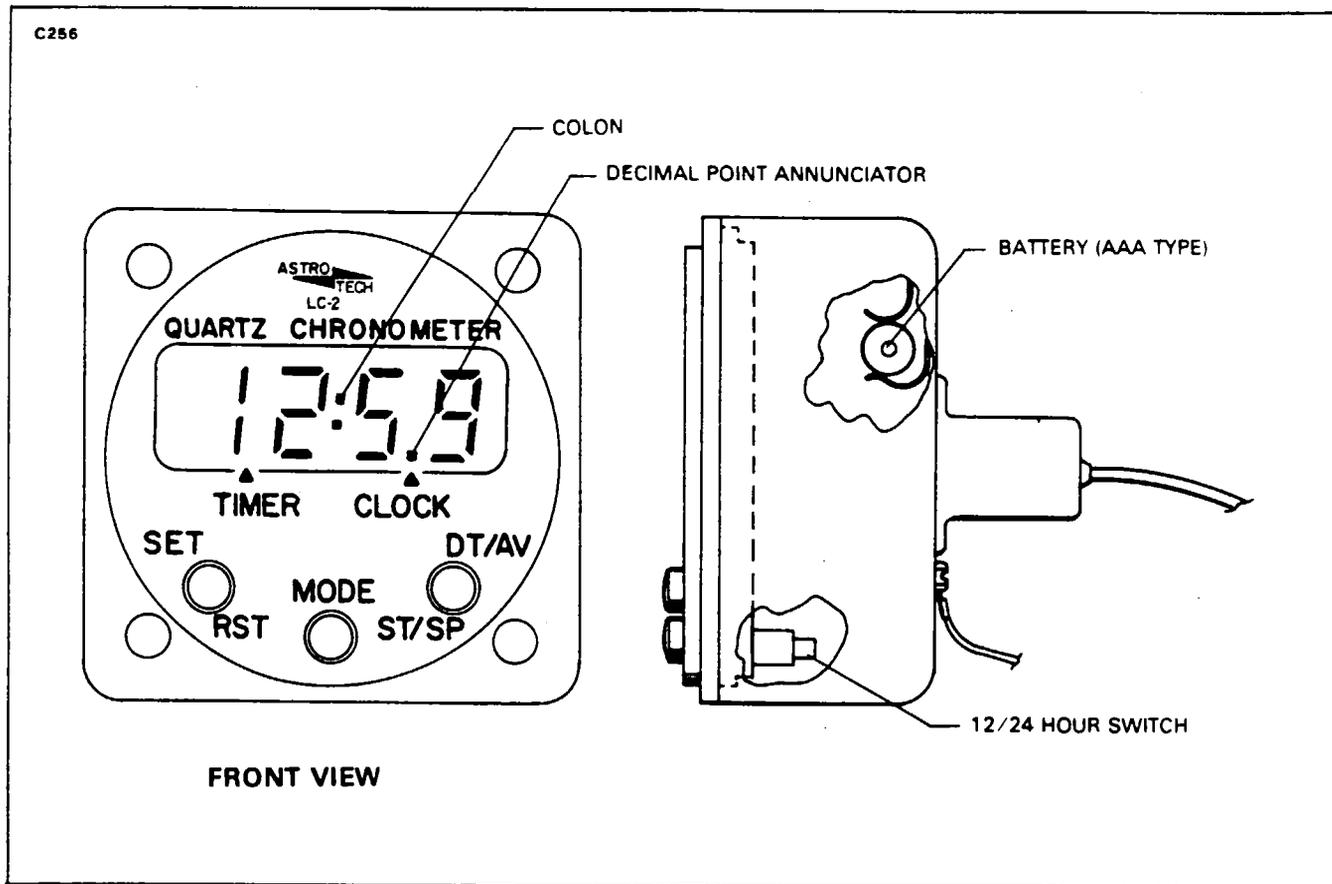

Figure 39-1. Quartz Digital Clock
**DIGITAL CLOCK, TIMER, CHRONOMETER OPERATION. (Refer to Figure 39-1.)**